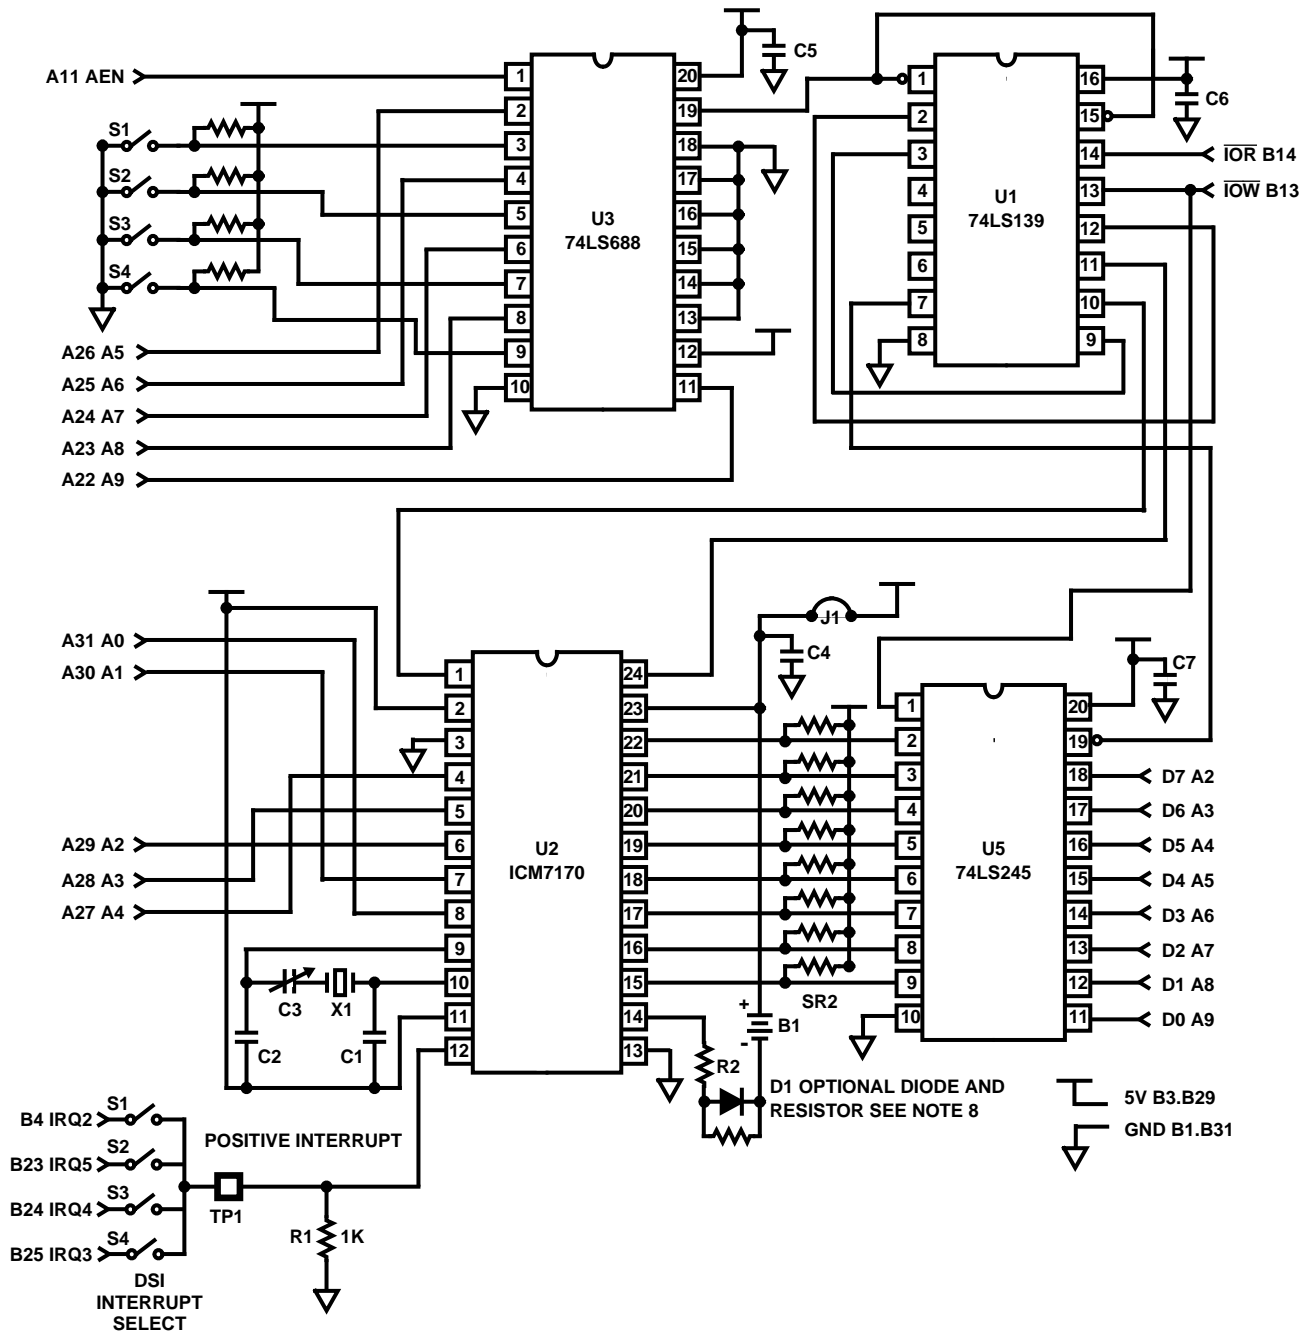

FIGURE 9. IBM PC INTERFACE FOR ICM7170Y
Figure 9 shows the schematic of a board that has been designed to plug into an IBM PC/XT (Note 1) or compatible computer. In this example \overline{CS} is permanently tied low and access to the chip is controlled by the \overline{RD} and \overline{WR} pins. These signals are generated by U1, which gates the IBM's \overline{IOR} and \overline{IOW} with a device select signal from U3, which is functioning as an I/O block address decoder. DS1 selects the interrupt priority.
8. V_{BACKUP} DIODE - Lithium batteries may explode if charged or if discharged at too high a rate. These conditions could occur if the battery was installed backwards or in the case of a gross component failure. A 1N914-type diode placed in series with the battery as shown in Figure 9 will prevent this from occurring. A resistor of $2M\Omega$ or so should parallel the diode to keep the V_{BACKUP} terminal from drifting toward the V_{SS} terminal and shutting off ICM7170 I/O during normal operation.